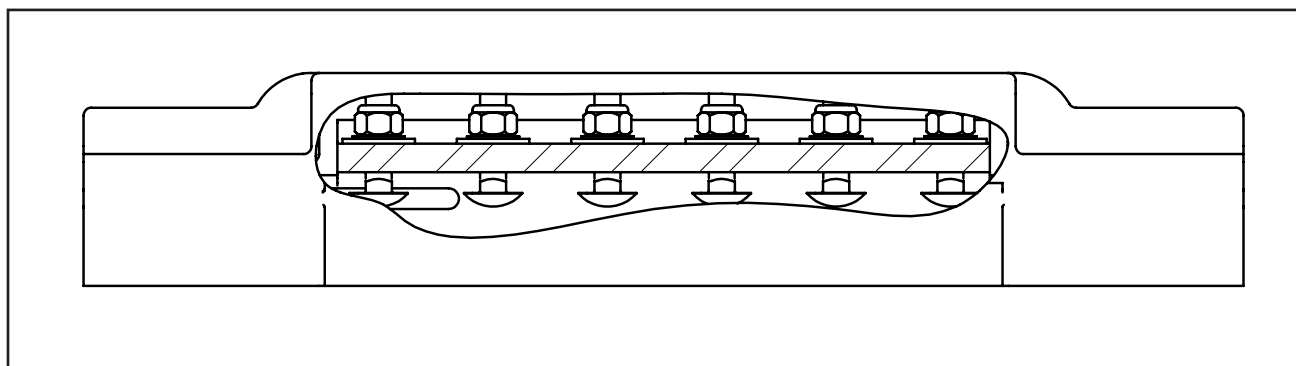

Figure 18-1 Completed Splice Assembly
- An example of a completed splice assembly is shown below in **Figure 18-1**.